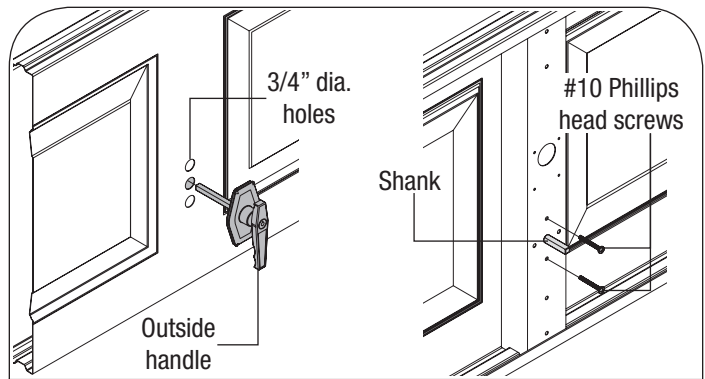

FIG. 4
8000/8100/8200 DOORS, (SEE FIG. 4): Align the outside handle assembly with the handle pointing towards the floor and insert the assembly through the previously drilled 3/4" diameter holes in the section. Secure the outside lock handle to the section with (2) #10 phillips head screws.